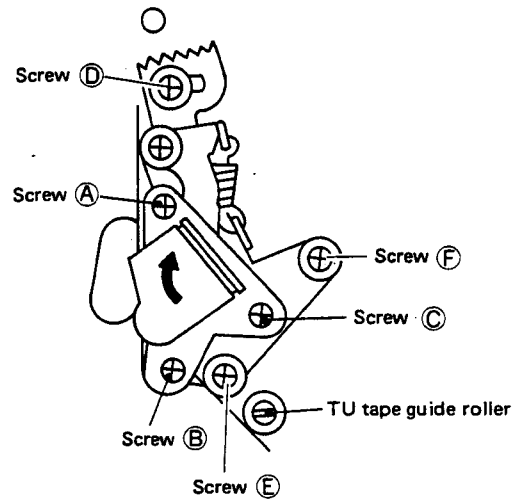

Fig. 2-53 A/C head position
5. Loosen screws (D), (E) and (F) (Fig. 2-53) and slide the A/C head fully in the drum direction, as indicated by the arrow.